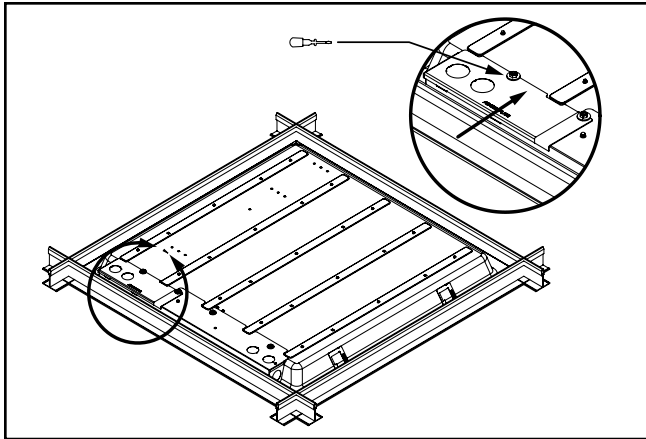

Figure 6.
3. Tuck all wires and wire nuts into the fixture junction box, replace electrical access plate, and screw securely into place (Fig. 6).